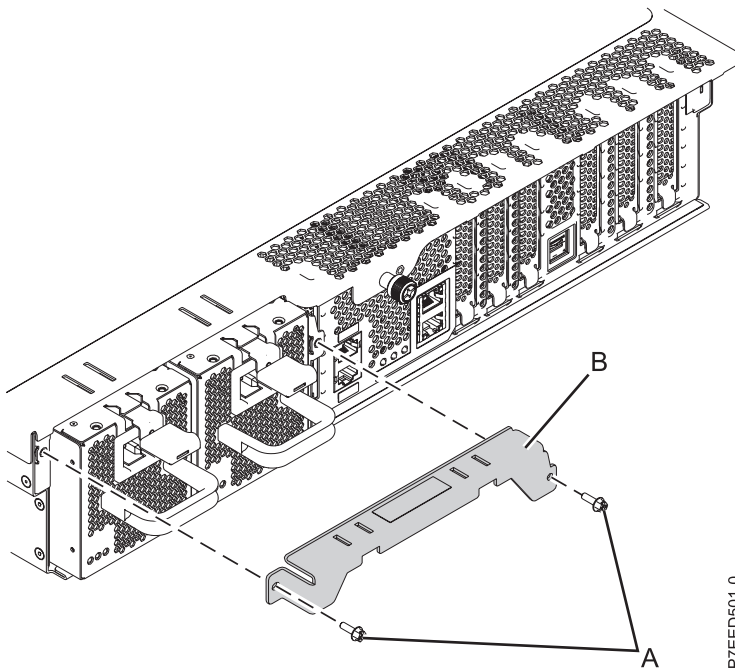

Figure 10. Removing the shipping bracket
- a. Remove the two screws (A), as shown in Figure 10.